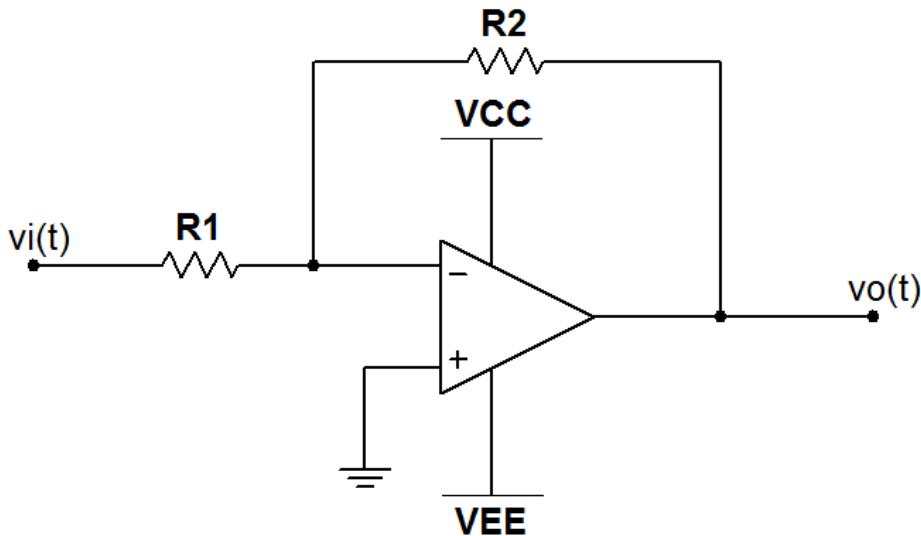

Figure 2.2: Circuit for Problem 2.2
Figure 2.2 illustrates an *inverting amplifier* constructed from an operational amplifier. The voltage gain of the inverting amplifier is $v_o/v_i = -R_2/R_1$.
Enter the circuit of Figure 2.2 on the previous page using the TL072CP op amp model. Place both “A” and “B” devices (the TL072CP contains two opamps in a single package), reserving the “B” device for the last part of the problem. Place the V_{CC} and V_{EE} power supplies and set their values to +15 V and -15 V.
- The inverting amplifier is most commonly drawn with the op amp “–” terminal on top as shown in Figure 2.2 on page 55. However, when first placed the TL072CP symbol has the “+” terminal on top. While it is possible to flip the orientation of the symbol (select the device and type Alt+Y), this causes the power supply pins to flip, as well. Normally the positive supply is drawn to connect to the top of the op amp. Use whichever op amp orientation you prefer, but ensure that the signal connections are correct.
1. Build the circuit of Figure 2.2 on page 55 with $R_1 = 10 \text{ k}\Omega$ and $R_2 = 10 \text{ k}\Omega$, and establish connections for the function generator and oscilloscope as follows: